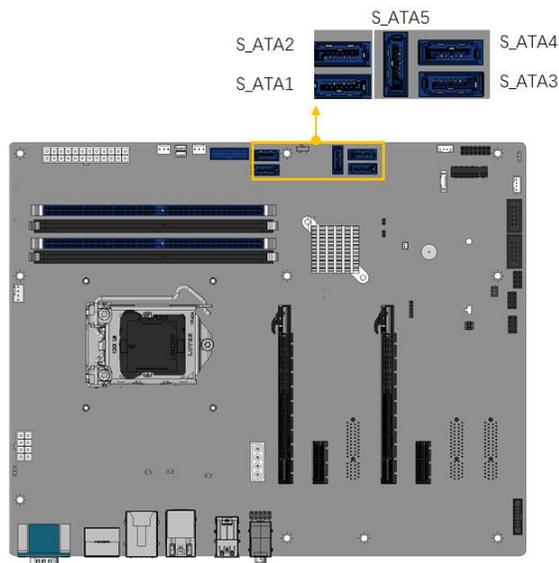

Figure 3-23: SATA 6Gb/s Connector Locations
- CN Location:** See Figure 3-23